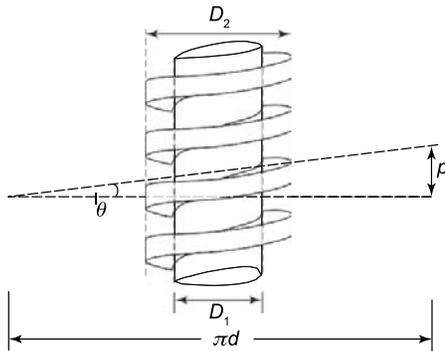

Figure 16.15
Consider the thread of the square-threaded screw jack shown in Figure 16.15.
From Figure 16.15, the motion of the screw in lifting the weight can be regarded as pulling the weight by a horizontal force  $P$ , up an incline  $\theta$ , where
$$\tan \theta = \frac{p}{\pi d} \quad \text{as shown in Figure 16.15,}$$
However, from Figure 16.15,
From Figure 16.15, the **actual work done**  $= P \times \pi d$
- The coefficient of friction on the sliding surface of a screw jack whose thread is similar to Figure 16.15, is 0.24. If the pitch equals 12 mm, and  $D_1 = 42$  mm and  $D_2 = 56$  mm, calculate the efficiency of the screw jack.